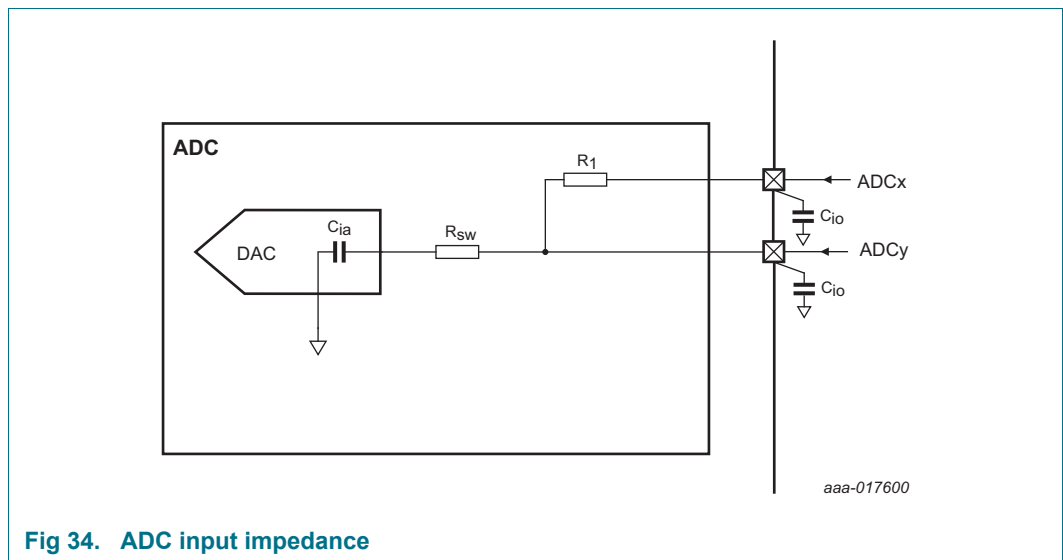

Fig 34. ADC input impedance
- [5] The differential linearity error ( $E_D$ ) is the difference between the actual step width and the ideal step width. See Figure 34.
- [6] The integral non-linearity ( $E_{L(adj)}$ ) is the peak difference between the center of the steps of the actual and the ideal transfer curve after appropriate adjustment of gain and offset errors. See Figure 34.
- [7] The offset error ( $E_O$ ) is the absolute difference between the straight line which fits the actual curve and the straight line which fits the ideal curve. See Figure 34.
- [8] The full-scale error voltage or gain error ( $E_G$ ) is the difference between the straight line fitting the actual transfer curve after removing offset error, and the straight line which fits the ideal transfer curve. See Figure 34.
Figure 34 shows the ADC input impedance. In this figure: